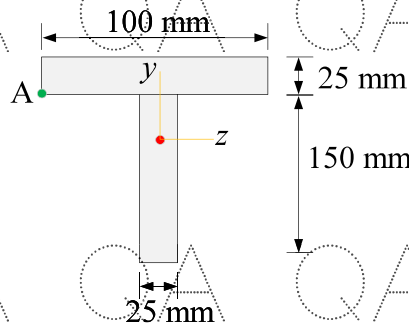

Fig. 4
6. A beam having a T-section (as shown in Fig. 4) is subjected to 12 kN-m bending moment (sagging). Determine the following: